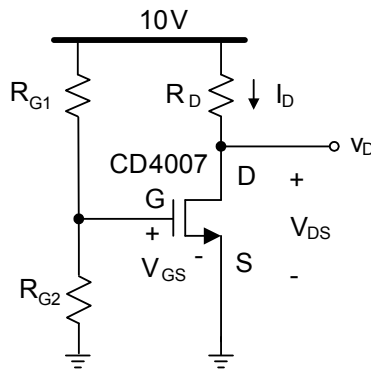

Fig. 2. MOS transistor circuit
1. For the circuit in Fig. 2, use the parameters you extracted from the previous lab for the CD4007 and calculate all resistor values and voltages so that  $I_D = 1 \text{ mA}$  and  $V_D = 5 \text{ V}$ .
4. Construct the circuit in Fig. 2 in PSpice and find the small signal parameters  $r_o$  and  $g_m$ . Compare PSpice results and calculations. Explain any differences.
1. Connect the circuit in Fig. 2 using the resistor values you calculated in the pre lab.